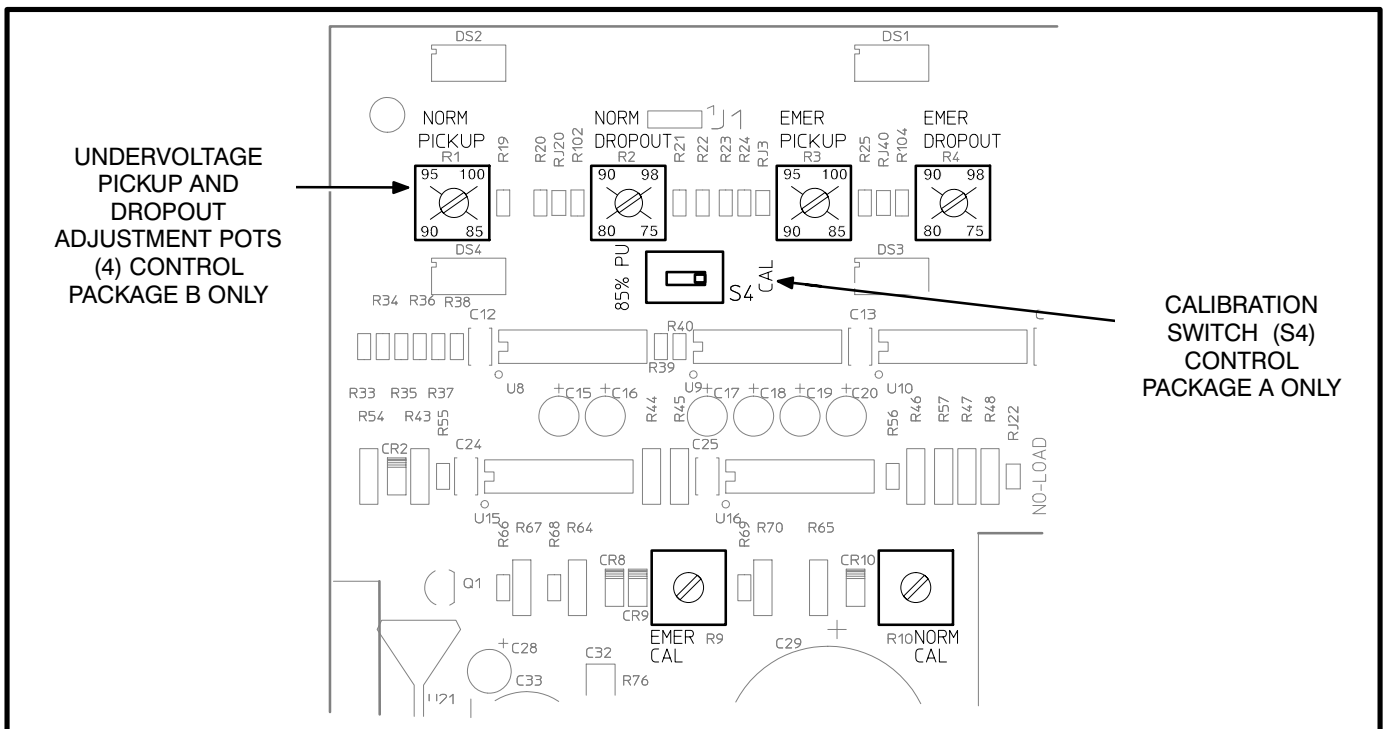

FIGURE 4-3. UNDervOLTAGE CALIBRATION, PICKUP AND DROPOUT ADJUSTMENT
A separate voltage sensor is used for each power source. The adjustment pot locations are shown in Figure 4-3. The Normal sensor monitors the Normal (utility) power source. The Emergency sensor monitors the Emergency (generator set) power source.
2. *Control Package A:* Move the calibration switch (Figure 4-3) to the CAL position.
Control Package A: Move the calibration switch (Figure 4-3) to the 85 % position.
To set the pickup and dropout percentages, align the slots on the potentiometers with the desired markings as shown in Figure 4-3).